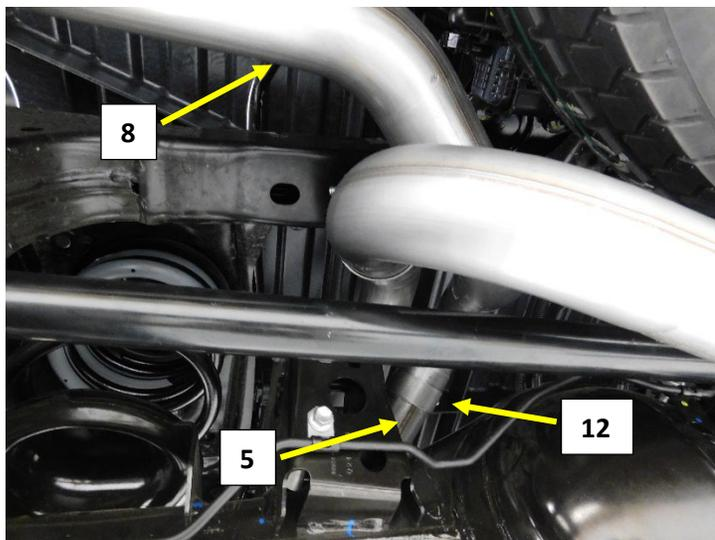

Figure.13
10. Install a 2.5" band clamp (**12**) on to the left tail pipe (**8**). Position the clamp with the bolt at the top of the pipe and the nut facing the right frame rail when the tube is installed on to the right muffler outlet pipe (**5**). **Fig.13**
11. Install the left tail pipe (**8**) expanded end with clamp installed over the axle and onto the right muffler outlet pipe (**5**) just over the differential. **Fig.13**